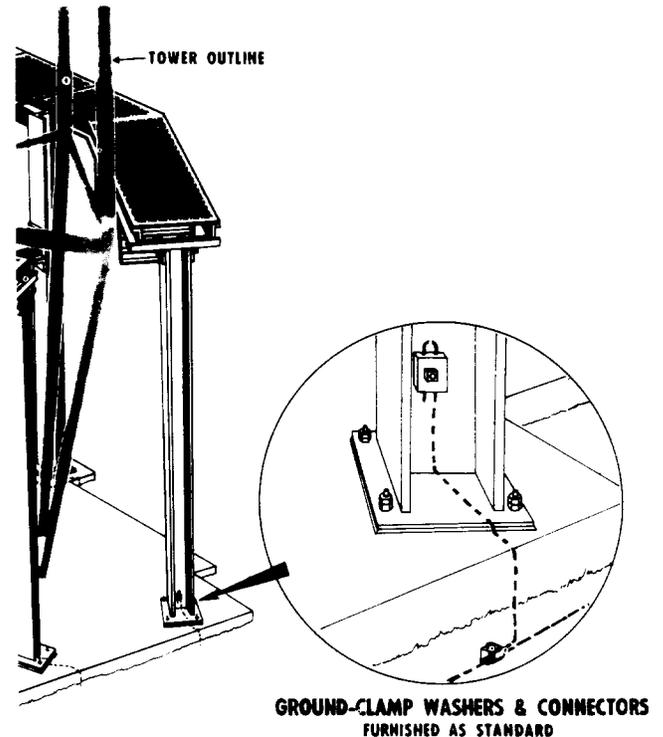

Fig. 5—Grounding at Waveguide Supports
4.01 Grounding of the waveguide support is illustrated in Fig. 5. One ground connection is required for each leg of the waveguide support. One end of the ground wire is connected to the leg of the support and the other end to the station/tower ground. About 5 feet of wire should extend above grade for making the connection at the leg of the support. A hole is provided in the base of each leg to accept the 1/2-inch bolt used to hold the grooved washer in place. The connection to the station/tower ground is made with a connector. The connection at the support leg must be painted over with black pitch to prevent galvanic action.